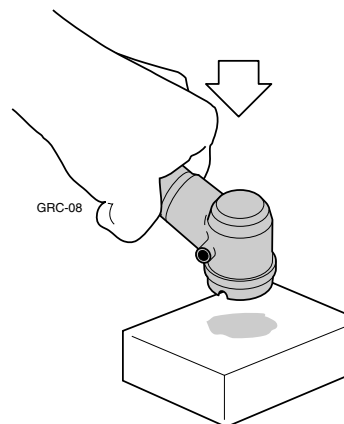

Figure 11.8 Removing the inner bearing.
■ Use a heat gun to pre-heat the gearcase to approximately 212°F (100°C), and then remove the inner bearing by tapping the gearcase output end sharply against a flat wooden surface (Figure 11.8).